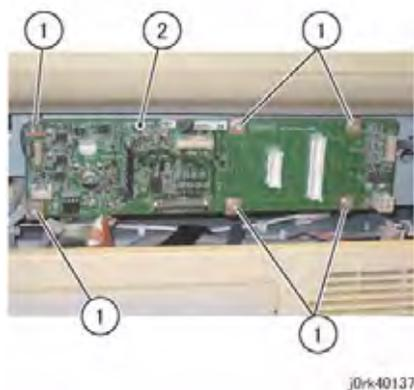

Figure 3 IIT PWB Removal
4. Remove the IIT PWB (Figure 3)